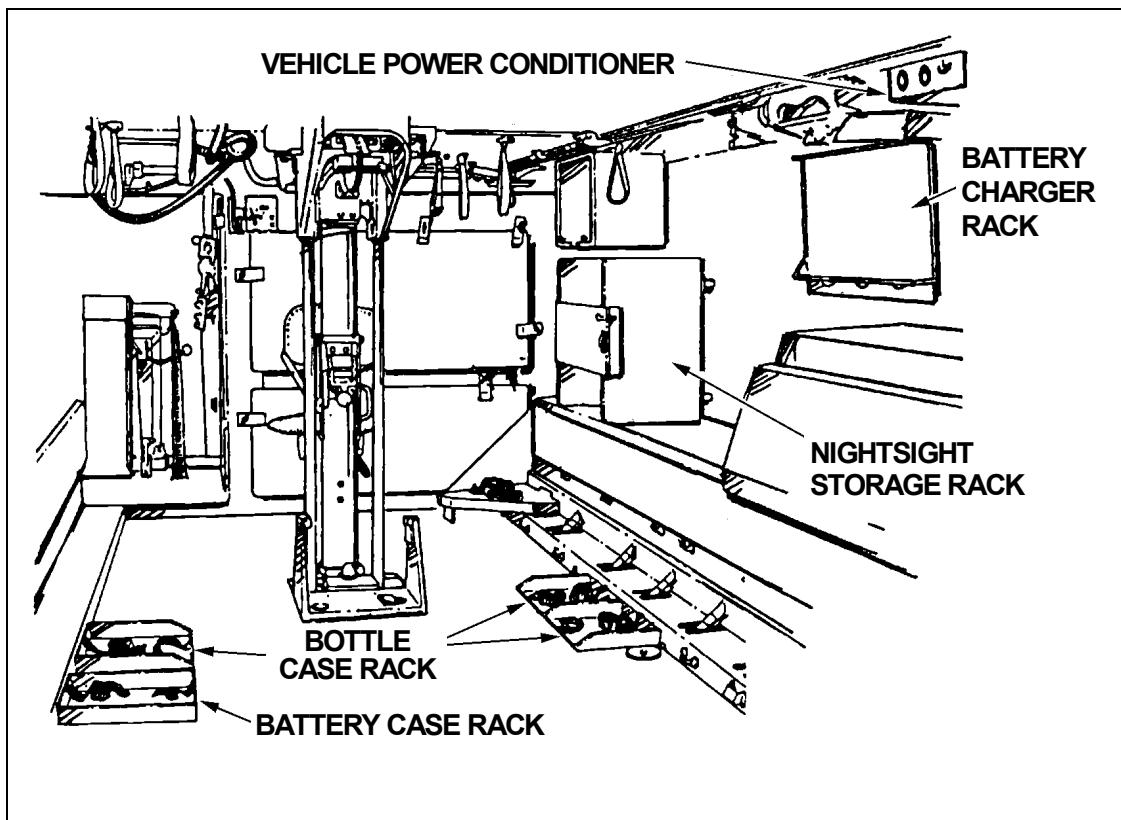

Figure E-8. Vehicle storage kit.
c. **Vehicle Storage Kit.** Each M113 APC assigned to a mechanized infantry squad has one of these kits installed (Figure E-8, page E-5). It consists of the following nightsight support equipment:
- (1) A nightsight storage rack, located just below the daysight storage case.
- (2) A vehicle power conditioner (VPC) to "step down" the power of the 24-volt battery to the required level.
- (3) A battery charger rack and a PP-7382/TAS battery charger also operate from the APC power source.
- (4) Three storage racks for coolant cartridge containers and one storage rack for a battery container are located under the personnel seats.